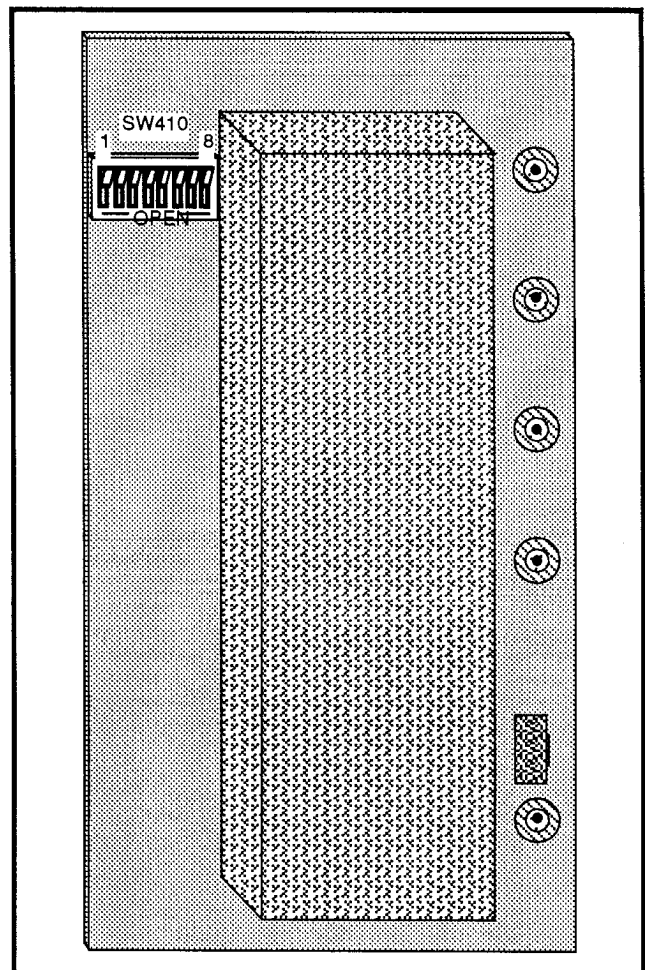

Figure 4-11. SW410 on the Reference Oscillator board.
- c. Start the Reference Frequency correction bit entry routine by pressing UTIL 5 2 4 2. Where the screen prompt calls for a new value, enter the value noted in part b, and follow the screen prompts. See Table 4-2 for the correction bit values for SW410. See Figure 4-11 for the location of SW410 on the Reference Oscillator board.